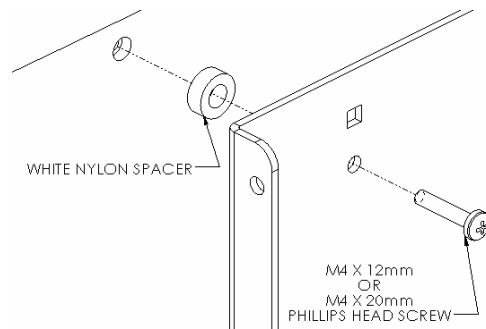
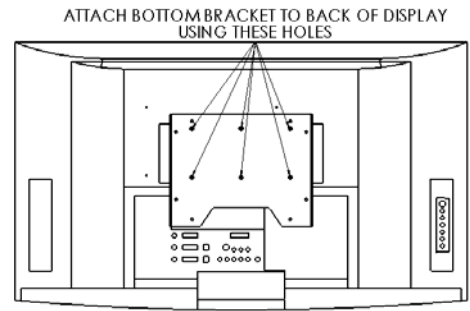

Figure 4
Figure 5
- Attach bottom bracket to back of display using the M4 x 12mm or M4 x 20mm screws depending on maximum screws depth of screen (see Figure 4 & Figure 5). If possible, use the 20mm screws. If the screen has shallow mounting holes, the 12mm screws should be used in order to prevent damaging the inside of the screen. Do not over tighten screws.